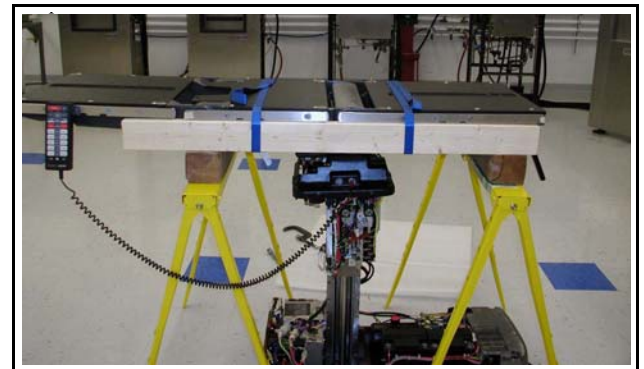

Figure 7-11. Secure Tabletop
- b. Attach both 4 x 4" boards to top of sawhorses using wood screws (see Figure 7-11).
8. Secure tabletop (see Figure 7-11) as follows:
- e. Use tie down straps to secure both 2 x 4" to tabletop as shown in Figure 7-11. There should be approximately 42" (1067 mm) from floor to bottom of side rails.